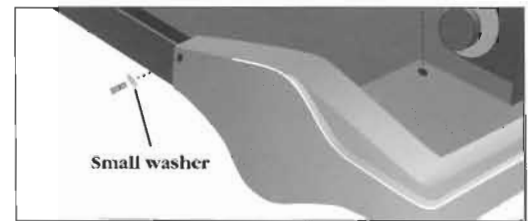

Figure 15 The 1/8-inch bolts are the smallest bolts found in your parts bag.
4. Slide a small washer onto each of the 1/8-inch bolts. Insert the bolts into each of the holes in the side of the shroud and the treadmill base (Figure 15). The washers should be between the shroud and the head ends of the bolts.